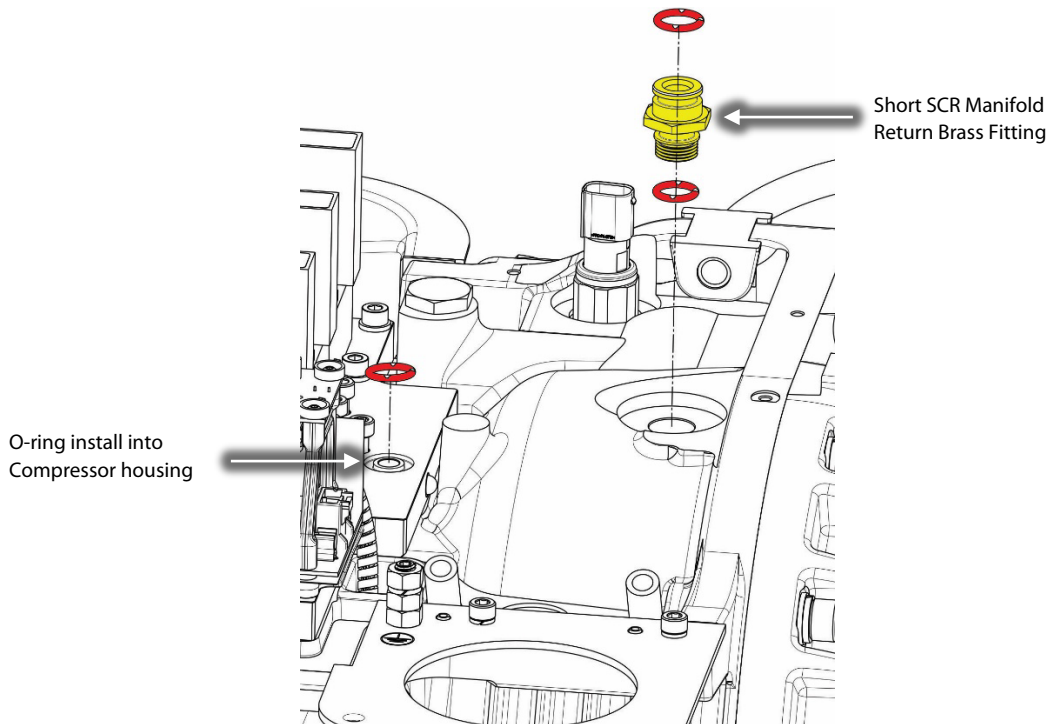

Figure 5 – Short Manifold Return Brass Fitting Installation for Option 1
8. Install new O-rings onto the SCR Manifold Return Brass Fitting and Inverter Heat Sink Plate. Refer to Figure 5 – Short Manifold Return Brass Fitting Installation for Option 1 for this and the following two steps.